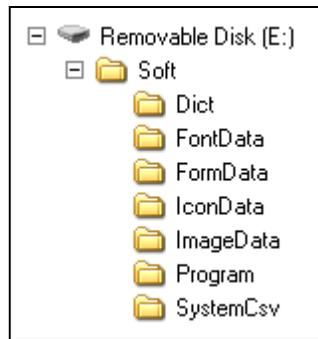

Figure 1.2. USB Memory Stick with Only "Soft" Folder
- The "Soft" folder must be the only data on the USB memory stick. See Figure 1.2.